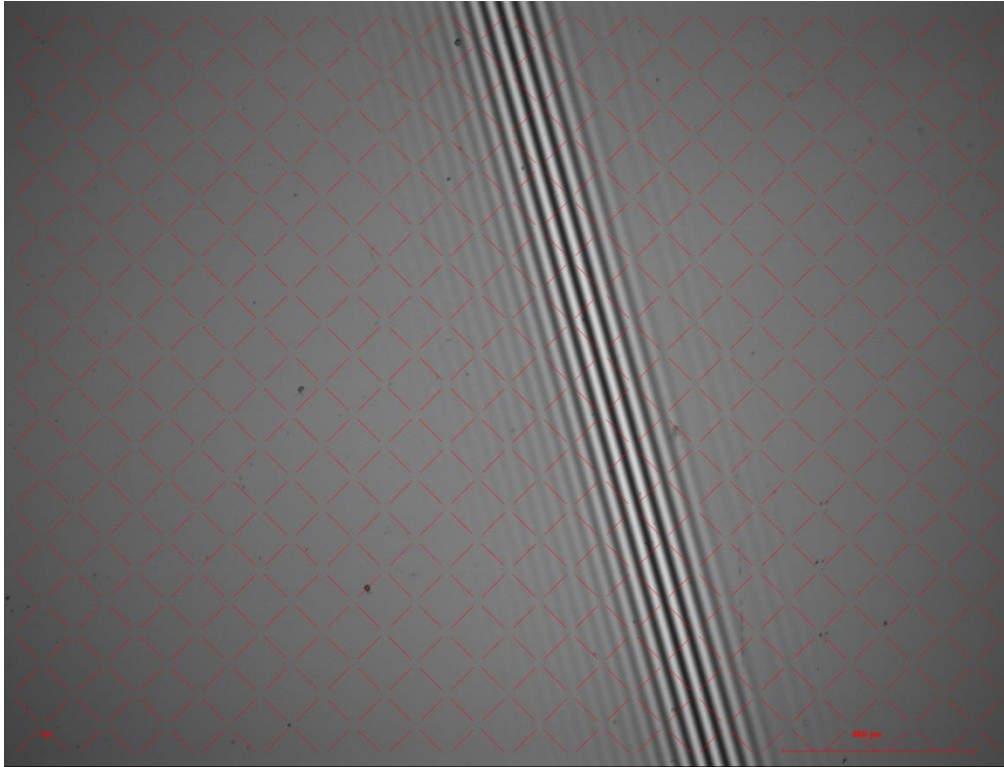

FIGURE 22: ENABLED 45° AUXILIARY GRID LINES
4. The smartVIS3D software provides specific guide lines which can be used to simplify the leveling procedure. You can find the guide line options using “Auxiliary lines / grid” menu entry of the “View” menu in the main dialog. If you have a tilting stage with 45° inclination adjustment use the “Auxiliary grid 45°” option, otherwise the “Auxiliary grid 90°” option. In following it will be assumed that the measurement device is equipped with a 45° inclination tilting stage. In Figure 22 you can see the enabled 45° guide lines
5. Try to align the interference fringes with the grid lines using the tilting screws. Turning a screw clockwise will lift the corresponding table corner. Turning a screw anticlockwise will lower the corresponding table corner. In case of incorrect leveled tilting stages adjusting the height level of a tilting screw will change the orientation of the visible interference fringes. For the orientation of the interference fringes as shown in Figure 22 turning the left screw clockwise will rotate the interference fringes anticlockwise. In Figure 23 for correct leveling required alignment of interference fringes with the grid lines achieved by turning the left screw clockwise is shown